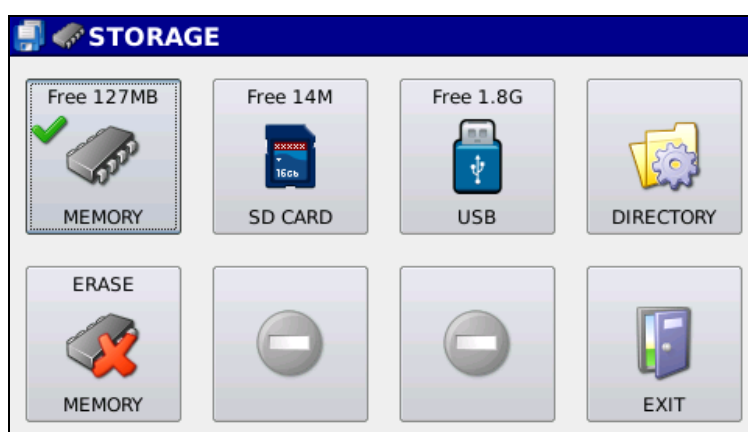

Fig 4.2: Storage window. Internal memory selected for measurements storage.
4.1 Press  to access the device manager window (Fig. 4.2) for selection of the storage device